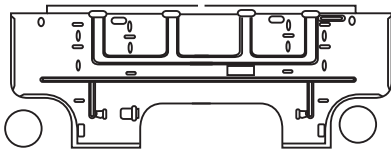

Figure 8
- 2) fix the back cover to the wall with the screws provided. (Figure 8). Make sure that the back cover is firmly fixed to the wall.